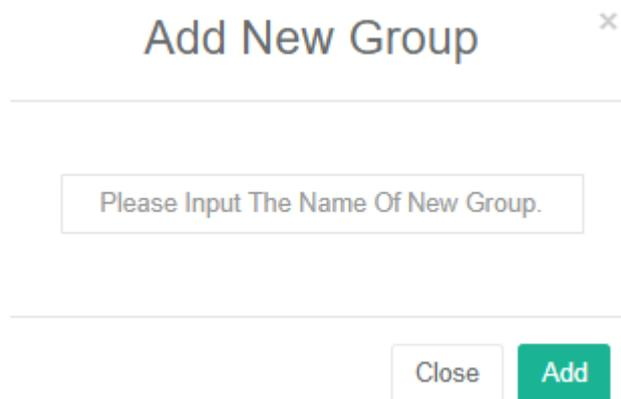

Figure 4-14
- 2) Click "Add new group", it will pop-up screen as shown in Figure 4-14;
- 1) Click "☰" in left of main screen, it will pop-up setting screen as shown in Figure 4-14;